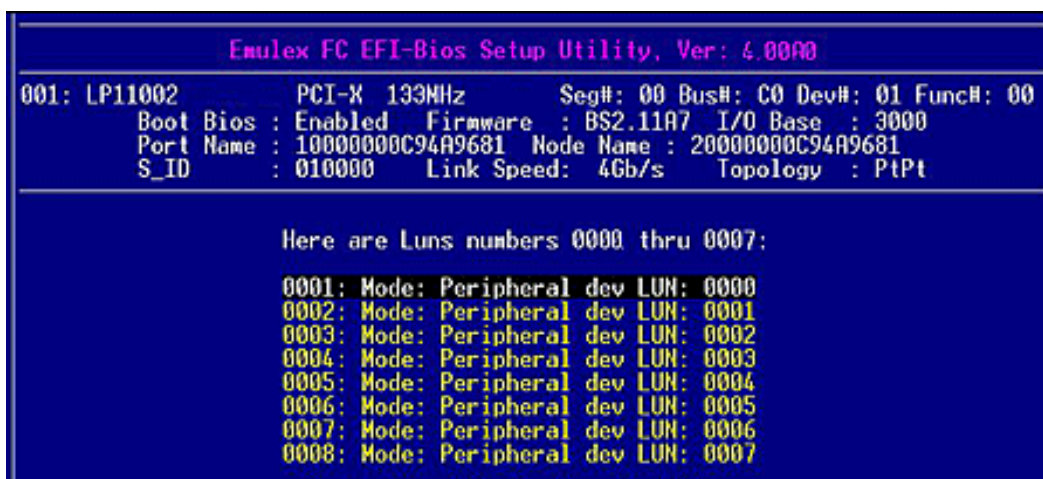

Figure 6-23 LUN Listing Screen
5. Select a target row and press **<Enter>**. LUNs for the target are displayed, as shown in Figure 6-23.